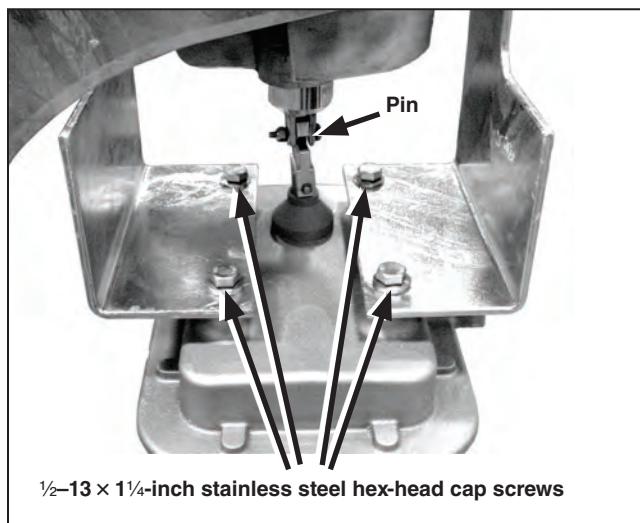

Figure 42. Secure the motor to the motor brackets.
STEP 4. Using the four 1/2-13 x 1/4-inch stainless steel hex-head cap screws and flat washers furnished, fasten the motor to the brackets. Tighten the screws to between 40 and 50 ft.-lbs. See Figure 42.